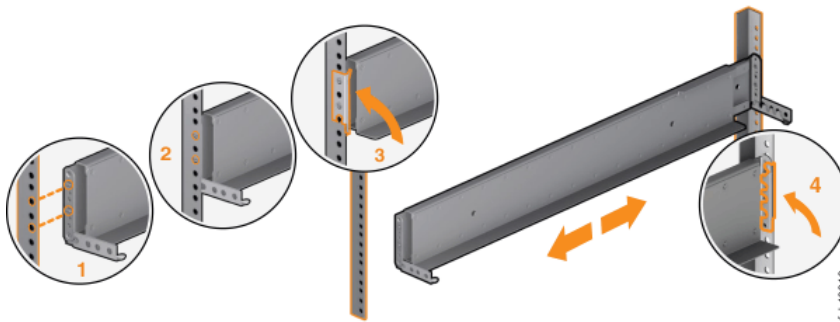

Figure 122. Closing the hinge brackets
9. Close the rear hinge bracket to secure the rail to the rack cabinet flange. (See Figure 122 on page 160.)
11. Close the front hinge bracket to secure the rail to the rack cabinet flange. See Figure 122 on page 160.